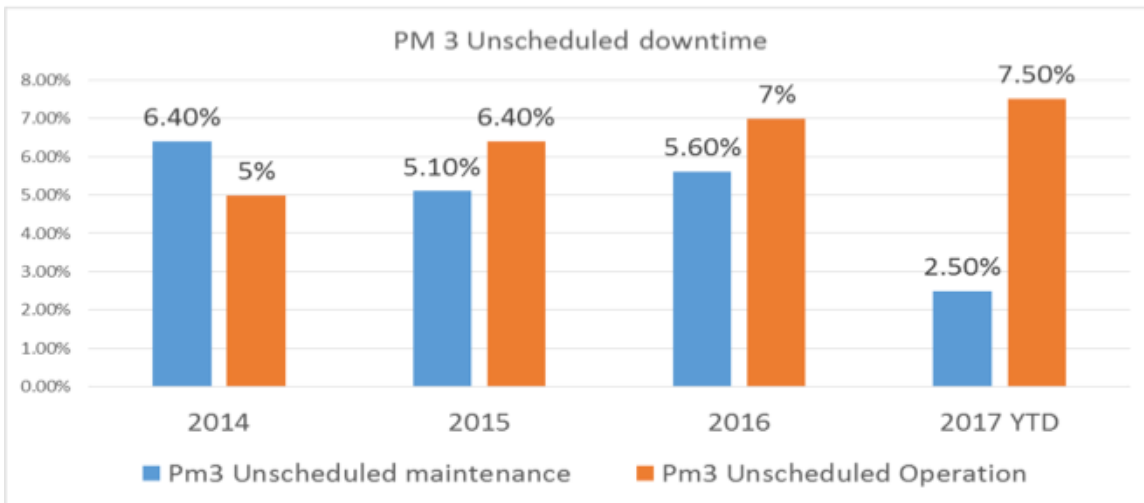

Figure 4: Unscheduled Downtime PM3. Note! Operational downtime has gone up because they are running more products on the machine today (boil-outs etc).
- PM 3’s unscheduled down time at 2.5%- See Figure 4